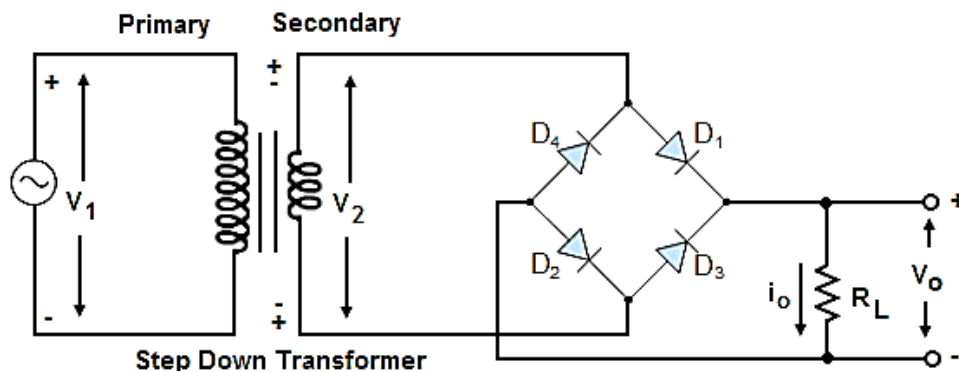

Fig.1.20: Full-wave bridge rectifier
- Fig.1.20 shows the circuit diagram of a full wave bridge rectifier. It uses **FOUR** diodes connected in the form of a bridge.